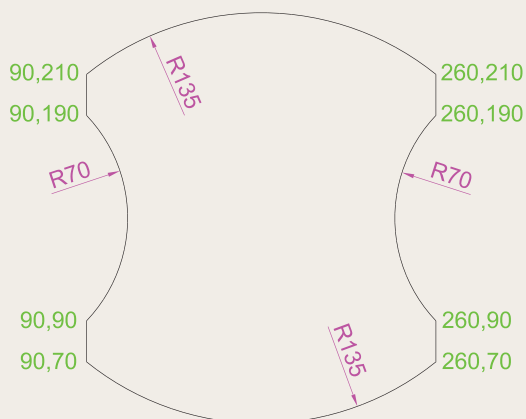

Fig. 3.46 Exercise 2
2. With the **Line** and **Arc** tools, construct the outline shown in Fig. 3.46.